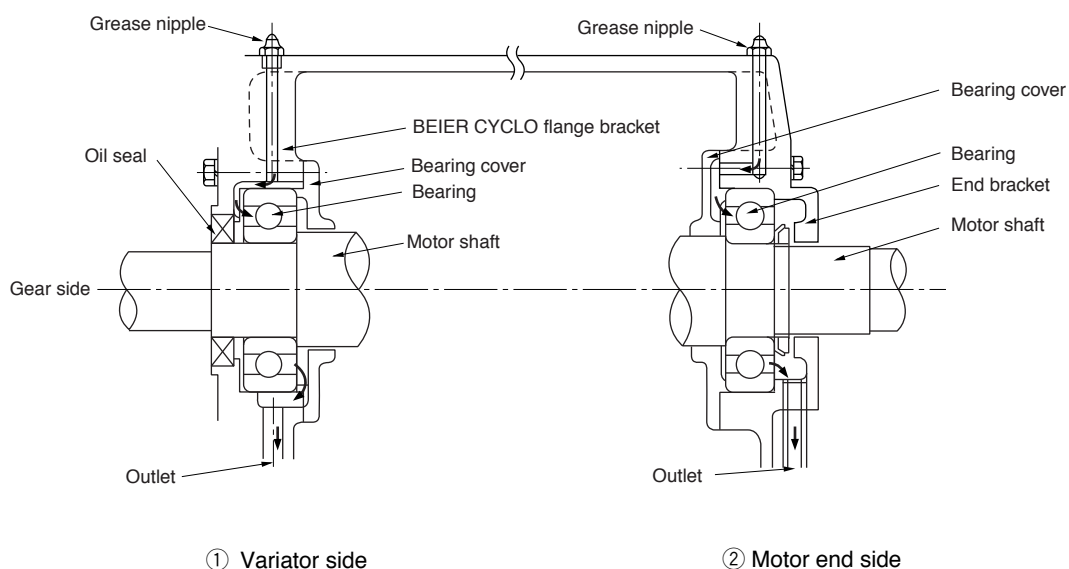

Fig. 20 Construction of Open Bearing in the Motor
## (3) Grease Supply and Discharge (Refer to Fig.20)
- ① Remove the discharge plug, discharge old grease and add new grease while unit is operating.